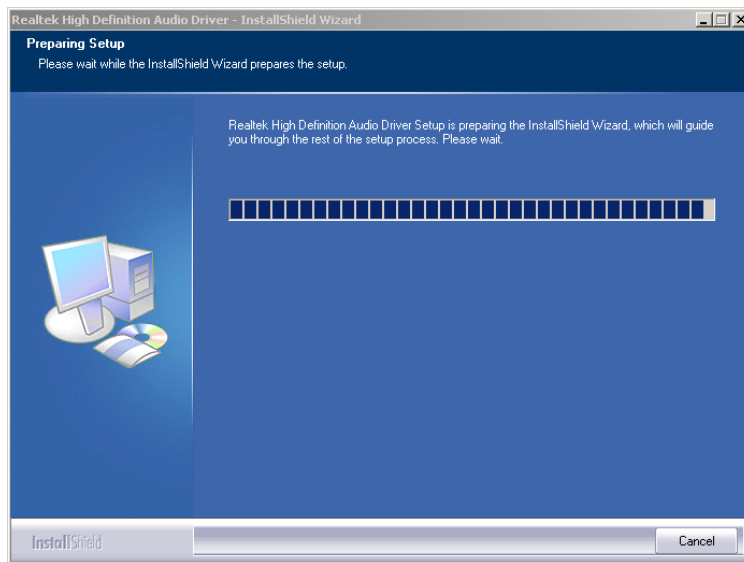

Figure 7-47: Preparing Setup Screen
Step 8: The InstallShield Wizard is prepared to guide the user through the rest of the process (Figure 7-47).